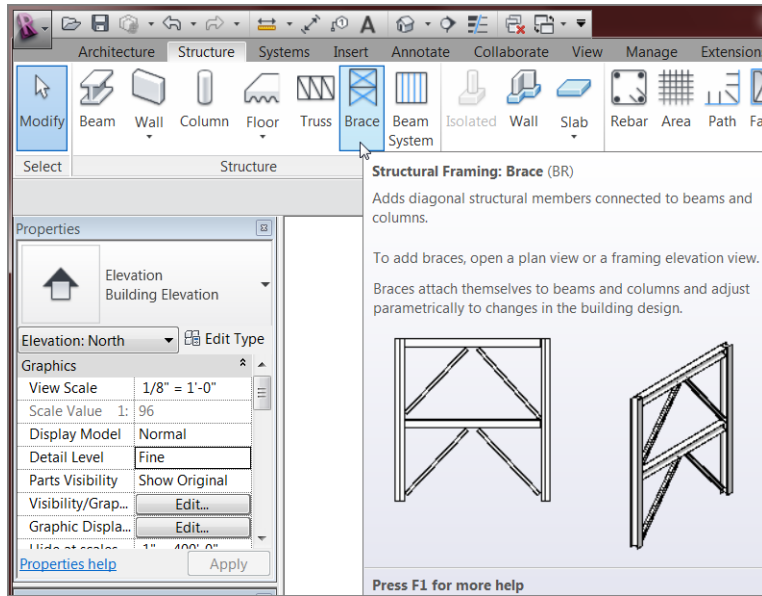

FIGURE 8.44: The Brace button on the Structure tab
7. On the Structure panel of the Structure tab, click the Brace button, as shown in Figure 8.44.